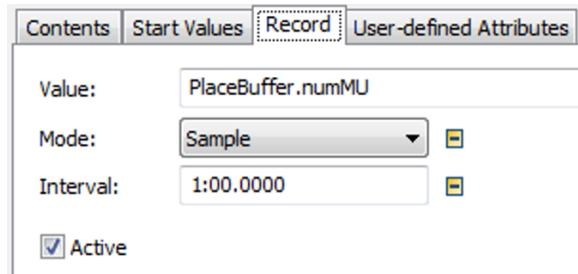

Fig. 4.12 TimeSequence settings
2. Click the tab **RECORD**, and replicate the settings from Fig. 4.12.